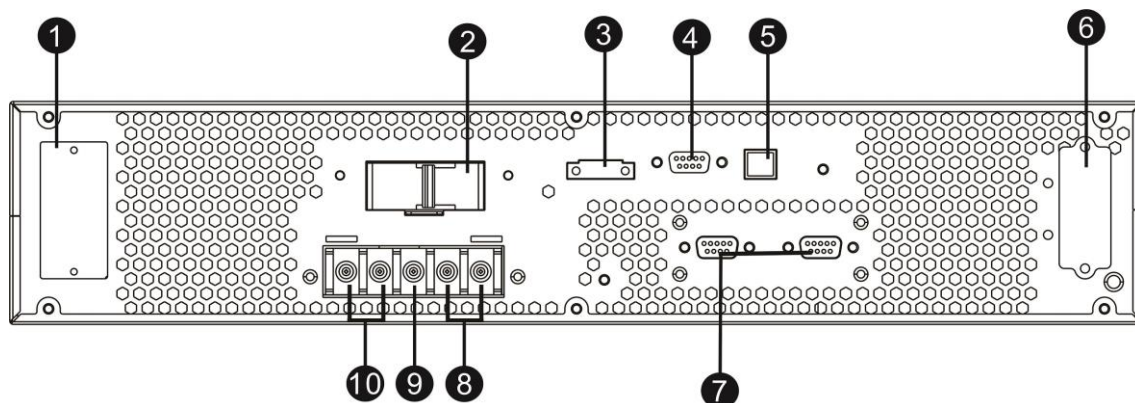
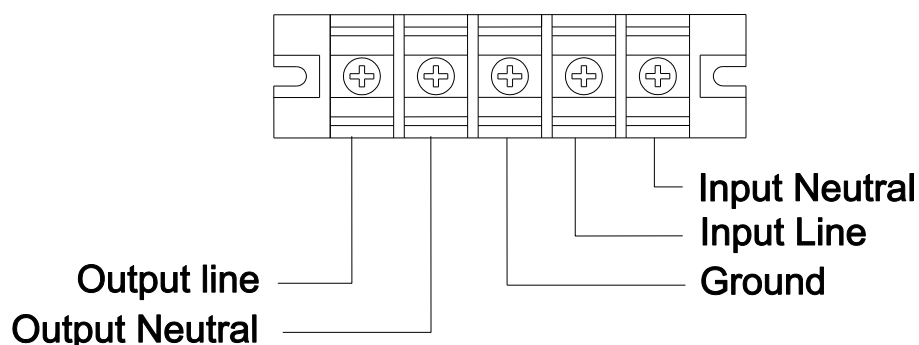

Figure 4 - Rear Side EVO DSP PLUS 6.0 RM - EVO DSP PLUS 10.0 RM
Figure 5 - Input/Output Terminals
1. The Input circuit breaker of UPS unit is "OFF" (see figure 4).
2. The Battery circuit breaker of Battery Box unit is "OFF" (see figure 4).
1. Remove the **metallic panel that covers the Input/Output terminals**, see figure 4. The terminals are shown in figure 5. All the cables have to reach the terminals from the rear side using the proper holes in the metallic panel.
2. Connect the **INPUT line (LINE, NEUTRAL and GROUND)**, paying attention to the right polarity, in accordance with figure 5, as explained below:
- ▶ Remove the metallic cover of Battery connector on the UPS unit (# 9 figure 4)
- ▶ Remove the metallic cover of Battery connector on the Battery Box unit (# 15 or #16, figure 4)
- ▶ Connect the AC Input power socket of the Battery Box unit (# 13 figure 4) to an AC utility line for recharging batteries.
1. Install and wires the UPSs according to the **Figure 5**.
7. Turn "ON" the Battery circuit breaker of the Battery Box unit (see figure 4).
8. Check if the Input circuit breaker the rear side of UPS unit is in "OFF" position (see figure 4).